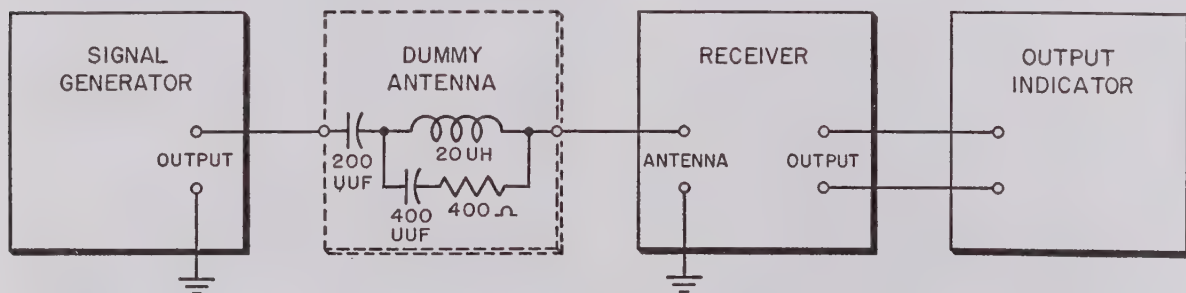

Figure 10. Dummy-antenna circuit connected between signal generator and receiver.
e. DUMMY ANTENNA (fig.10). The dummy antenna matches the impedance of the signal generator to the impedance of the receiver and serves as a convenient means of injecting the signal. It is placed between the hot lead of the signal generator and the receiver antenna terminal and should have the same electrical characteristics as the actual antenna. The dummy antenna to be used usually is specified in the receiver instruction manual.
- (1) Instruments used as output indicators during alinement show relative values of amplitude. The most popular instruments for this purpose are either the copper-oxide rectifier or vacuum-tube a-c voltmeters, output meters, or oscilloscopes.
- (2) An output meter in either type of a-c voltmeter plus a capacitor in series with one lead for the purpose of keeping out d-c and allowing ac to pass.
- (3) An output meter is used when an indication is to be taken at a point where both ac and dc are present, such as the plate of the power output stage. Although a-c meters respond to either ac or dc, only the a-c signal coming through the receiver is important for alinement purposes. Therefore, when a meter is used at the power amplifier plate, it should be an output meter rather than an a-c voltmeter. At the receiver output, where only ac is present,